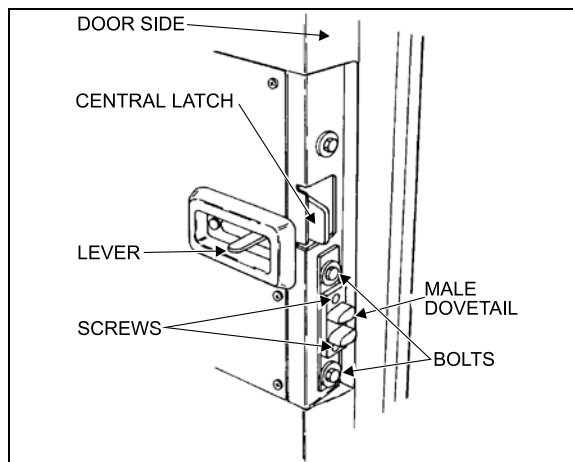

FIGURE 19: DOOR LATCH (COACH)
5. To adjust the male dovetail on L.H. side of the door, remove the two screws and loosen the two bolts. Slide the male dovetail toward the interior and loosely tighten the two bolts. Close the door slowly but firmly, then slowly open it and tighten the two bolts. Attach dovetail to the door with screws. See Figure 19.